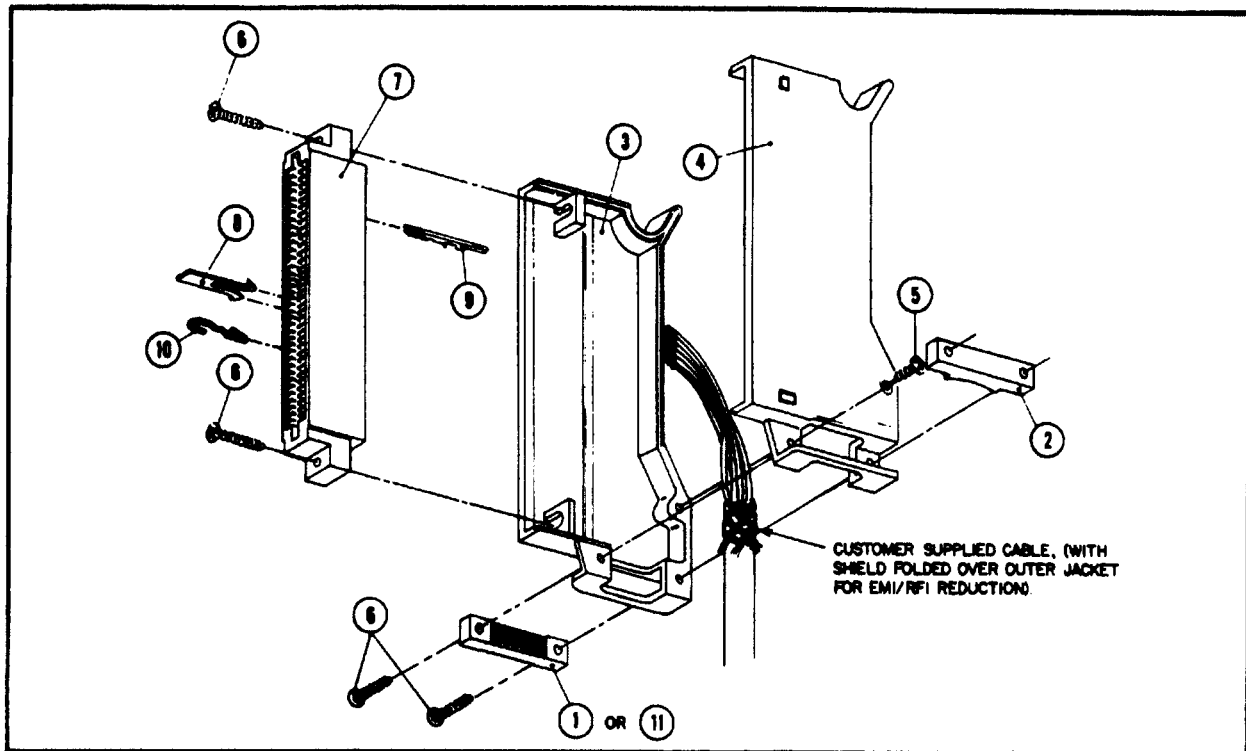

Figure 1. I/O Card Connector Assembly
ASSEMBLY PROCEDURE (Figures 1 and 2)
- d. Insert springs (10) into the connector pin housing. Springs are inserted from front of the connector pin housing to insure a tight connection to the card's edge (see Figure 1). A pair of springs is inserted into adjacent connector slots in three places on the connector (see Figure 2).
- e. Install key (8) (Figure 1) in applicable slot. Connector key is installed from front of the connector pin.
- f. Place the hood assemblies (3) and (4) around the connector pin housing (7). Ensure that the bottom (high numbered pin slots) of the housing is at the bottom (cable entrance) of the hood assemblies.
- g. Route cable wires through cable entrance and then fasten the left and right hood assemblies together by inserting and tightening screw (5).
- h. Fasten connector pin housing (7) to the assembled hoods (3) and (4) using two screws (6).
- i. Insert connector bracket (1) or (11) (see EMI/RFI Reduction Considerations) and proper sized cable clamp (2) in the cable entrance and fasten with two screws (6).